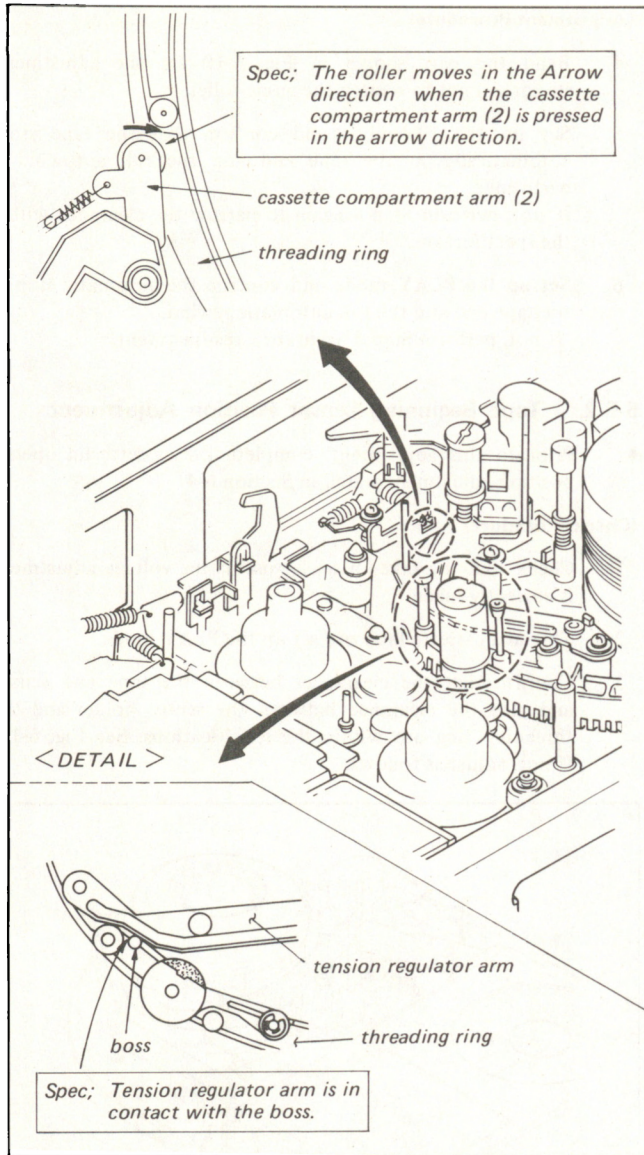

Fig. 6-8. Check of unthreading completion
2. Check to see that the roller moves in the direction shown by the arrow as the Cassette Compartment Arm (2) is pushed in the direction shown by the arrow.
3. Check to see that the tension regulator arm touches the boss of the threading ring as shown in Fig. 6-8.